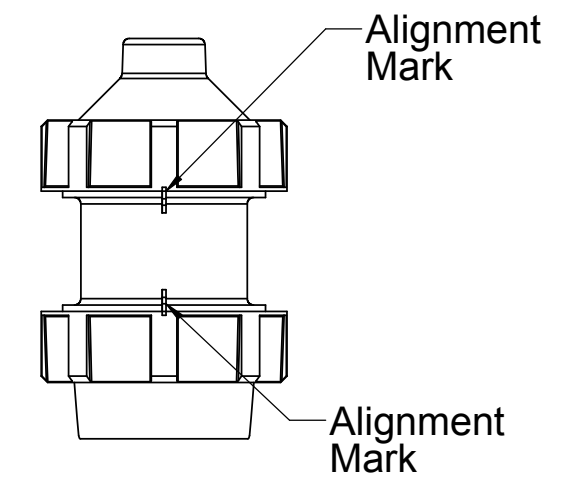

FIG. 5
8. Replace the Top Cap and tighten until the Alignment Mark on the side of the Top Cap lines up with the Alignment Mark on the Body as in Fig 5.
13. Then tighten the Lower Cap until the Alignment Mark on the side of the Lower Cap is aligned with the alignment mark on the Body. See Fig 5.